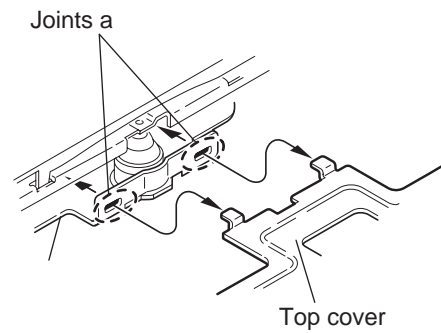

Fig.2
3.1.2 Removing the front chassis assembly (See Figs.2 to 3)